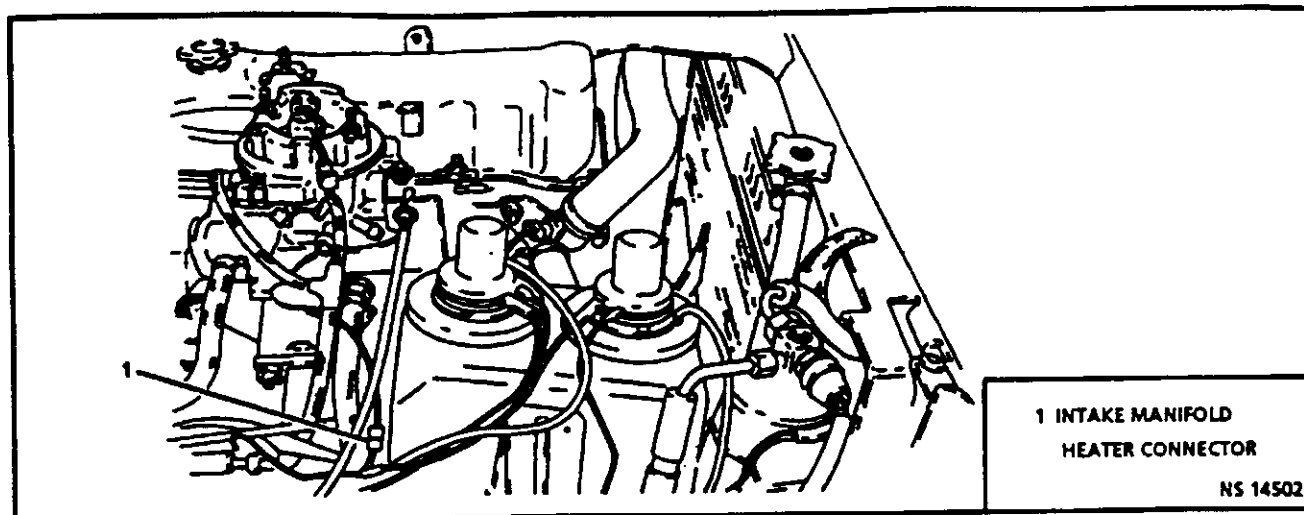
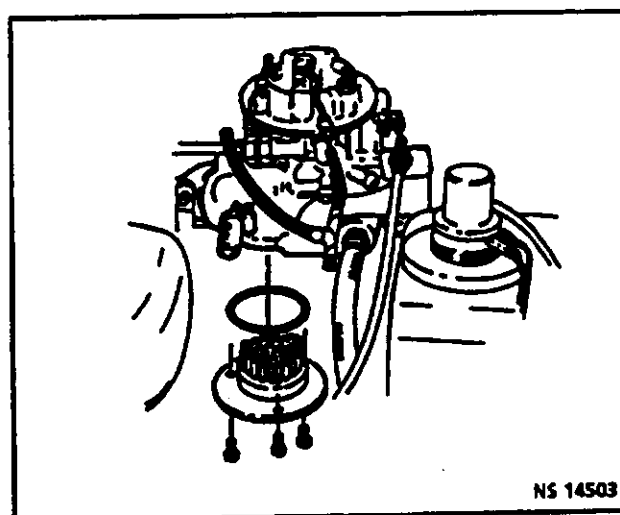

Figure 3.9-1 Intake Manifold Heater Connector
Figure 3.9-2 Intake Manifold Heater Removal
*Figures 3.9-1 and 3.9-2*
2. Intake manifold heater connector (Figure 3.9-1).
3. (3) manifold heater to intake manifold connecting bolts.
4. Intake manifold heater and gasket from underside of intake manifold (Figure 3.9-2).